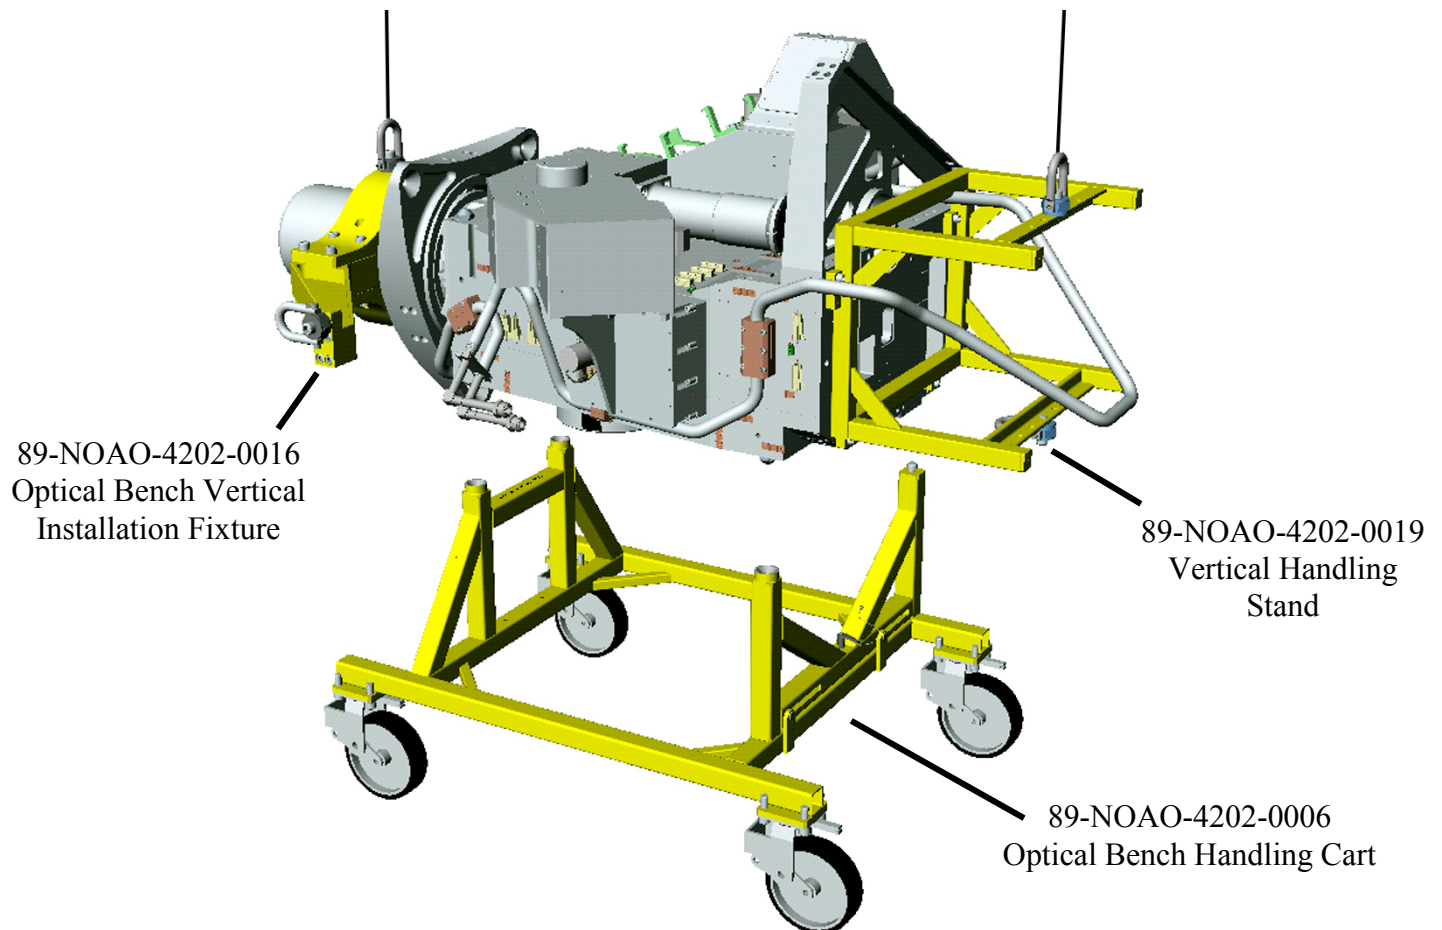

Figure 8.4.10.2. Horizontal orientation “A”. After rotating Main Optical Bench, lower onto 89-NOAO-4202-0006 Optical Bench Handling Cart.
Figure 8.4.10.1. Rotating Main Optical Bench to horizontal orientation “A”. (Left) Attach (1) Strap to 89-NOAO-4202-0016 Optical Bench Vertical Installation Fixture and lift until Optical Bench begins to rotate. (Right) Attach second strap to 89-NOAO-4202-0019 Vertical Handling Stand and lift until Optical Bench is horizontal.